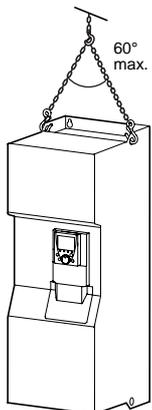

Figure 4
- 3 Remove the screws holding the drive on the pallet and lift off the drive by means of a hoist. It is fitted with handling lugs for this purpose (figure 4).